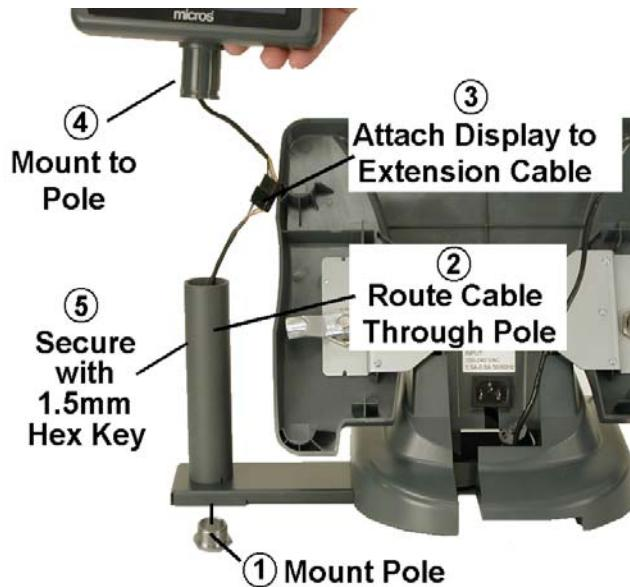

Figure 3-30: Assembling the WS5/WS5A Adjustable Stand Pole Display
3. Refer to the numbered steps in Figure 3-30 to attach the pole to the bracket, run the interface cable, and attach the LCD to the pole.